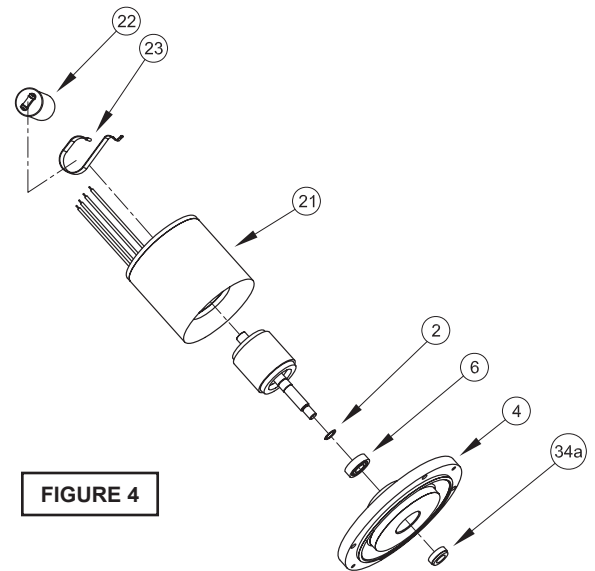

FIGURE 4
paragraph F-4.1. Remove socket head cap screws (10). Vertically lift the motor housing (5) from seal plate (4) by lifting handle (18). Inspect square ring (8) for damage or cuts. Remove the motor bolts and lift motor stator from seal plate (4). Disconnect capacitor leads from capacitor (22, single phase units). Examine bearing (6) and replace if required. If replacement is required, remove bearing (6) from motor shaft using a wheel puller or arbor press, see Figure 4.